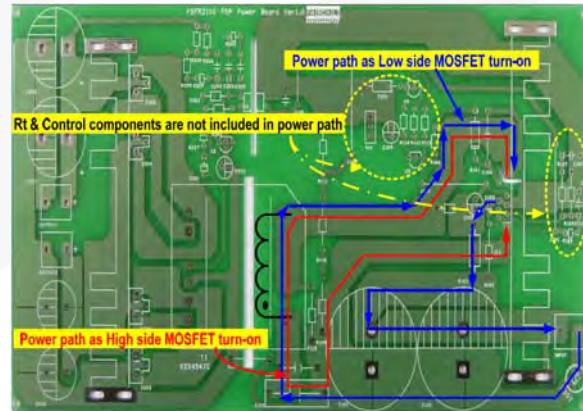

Figure 28. Example for Duty Balancing
6. PCB Layout Guideline: Duty unbalance problems may occur due to the radiated noise from main transformer, the inequality of the secondary side leakage inductances of main transformer, and so on. Among them, it is one of the dominant reasons that the control components in the vicinity of R_T pin are enclosed by the primary current flow pattern on PCB layout. The direction of the magnetic field on the components caused by the primary current flow is changed when the high and low side MOSFET turns on by turns. The magnetic fields with opposite direction from each other induce a current through, into, or out of the R_T pin, which makes the turn-on duration of each MOSFET different. It is highly recommended to separate the control components in the vicinity of R_T pin from the primary current flow pattern on PCB layout. Figure 28 shows an example for the duty balanced case.